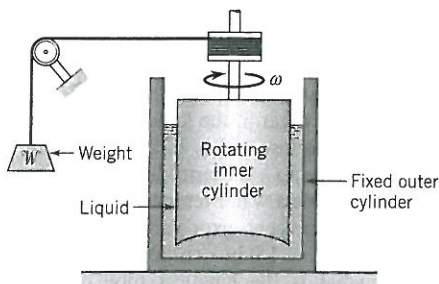

Figure P1.88
1.88 One type of rotating cylinder viscometer, called a *Stormer* viscometer, uses a falling weight, W , to cause the cylinder to rotate with an angular velocity, ω , as illustrated in Fig. P1.88. For this device the viscosity, μ , of the liquid is related to W and ω through the equation $W = K\mu\omega$, where K is a constant that depends only on the geometry (including the liquid depth) of the viscometer. The value of K is usually determined by using a calibration liquid (a liquid of known viscosity).